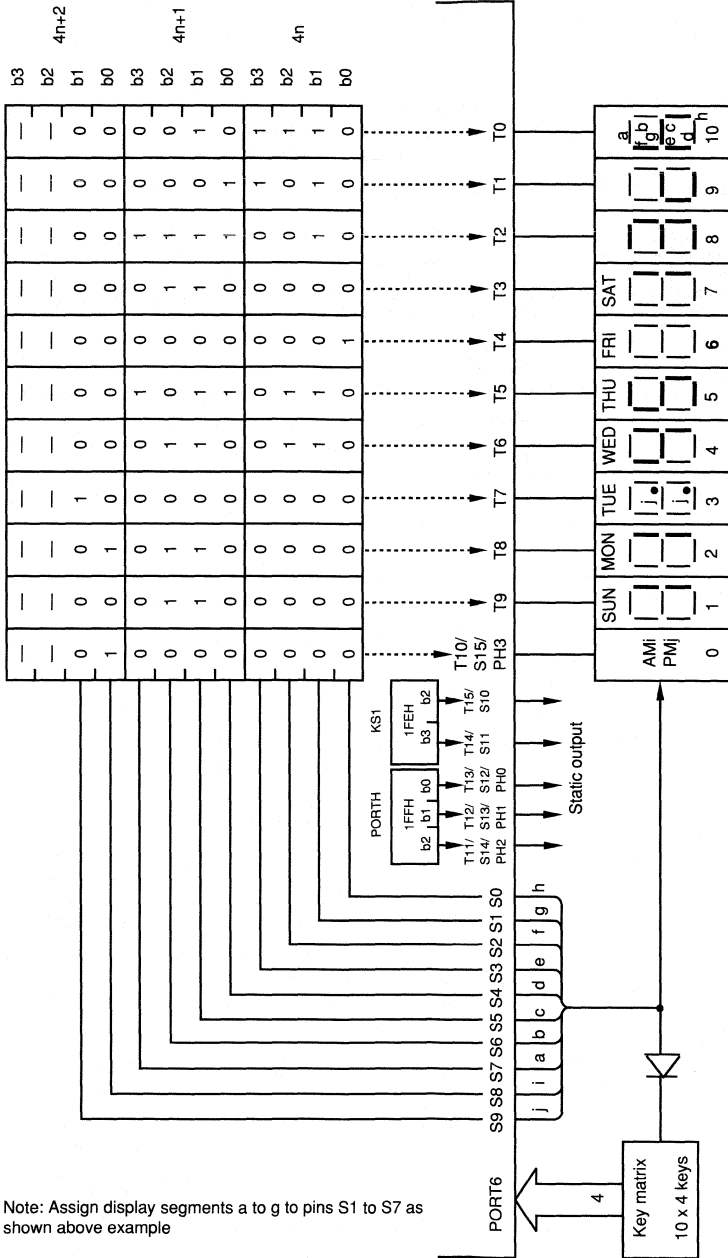

Fig. 5.7.13 10-Segment 11-Digit Display
- (1) 10-segment mode display example: 10-segment 11-digit display (Fig. 5.7-13)